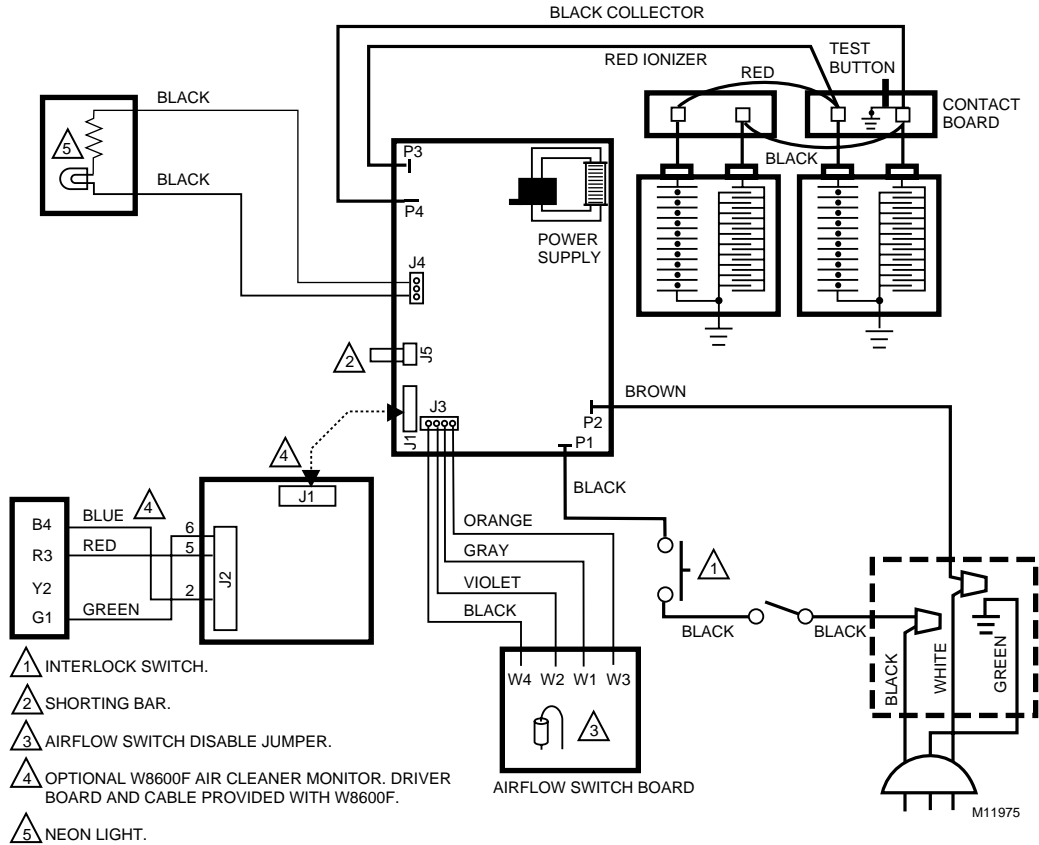

Fig. 17. Internal schematic for electronic air cleaner with W8600F.
- When the system fan comes on the Air Flow Switch (AFS) senses the negative pressure in the duct and turns the power supply on. If power to the air cleaner is controlled by another switch the AFS can be disabled by cutting the jumper on the back of the AFS circuit board. See Fig. 17.
- Plug the electronic air cleaner directly into the correct voltage and frequency outlet. See Fig. 17 for internal schematic. The air cleaner will operate properly with any fan when wired with conduit or plugged in.